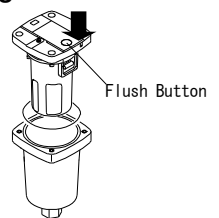

Fig5. How to reassemble
- (2) Clean the inside of bowl completely. If inside of Bowl is contaminated, it will cause leakage when reassembled.
- (3) When O-ring is contaminated, clean the surface of it, and check for flaw. If a flaw is detected replace O-ring with new one since It will cause leakage. Part No. of O-ring : G85
### (C) How to reassemble <Refer to Fig.5>
- (1) Put O-ring in the groove on the top of Bowl. **Make sure that O-ring is in place.**
- (2) Hold the body facing mechanism section downward, set flush button just above inlet port, and put mechanism section in bowl. At this time, when there is clearance of around 3mm(1/6 in) between the body and bowl, it could not be completely installed as such, please adjust the bowl to fit into the body.
- (3) Tighten 4 cap screws keeping the condition of (2). Tightening torque value of : 5N · m(43.4inch·pounds)
- (4) Repressurize by opening isolation valve slowly, and start operation after checking for leak.